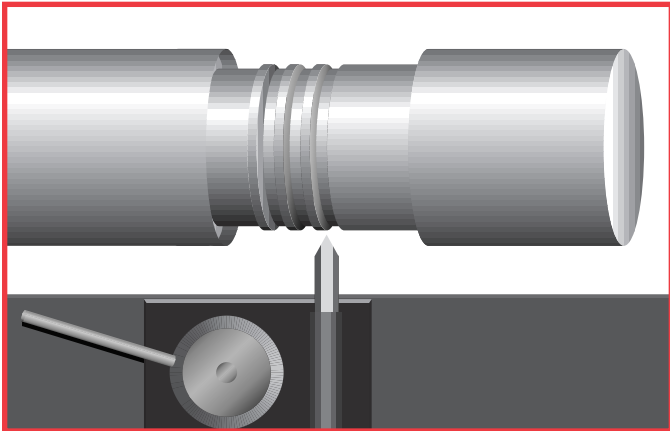

Figure 16. Roughen shaft for better adhesion.
- 2. Finish undercutting** by machining a rough cut surface or gramophone pattern, the larger the shaft diameter, the deeper the threads. Degrease thoroughly. (See figure 16)